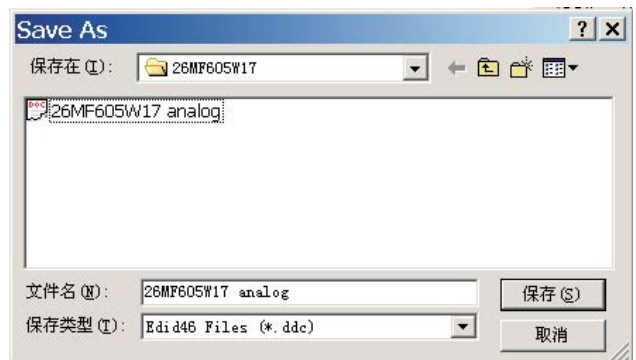

Fig. 25
1. Click (Save) icon (or click "file"-> "save as") from the tool bar and give a file name as shown in Fig. 25. The file type is EDID46 file (\*.ddc) which can be open in WordPad. By using WordPad, the texts of DDC data & table (128 bytes, hex code) can be modified. If DDC TEXTS & HEX Table ar completely correct, it can be saved as .ddc flie to re-load it into DDC IC for DDC Data application.